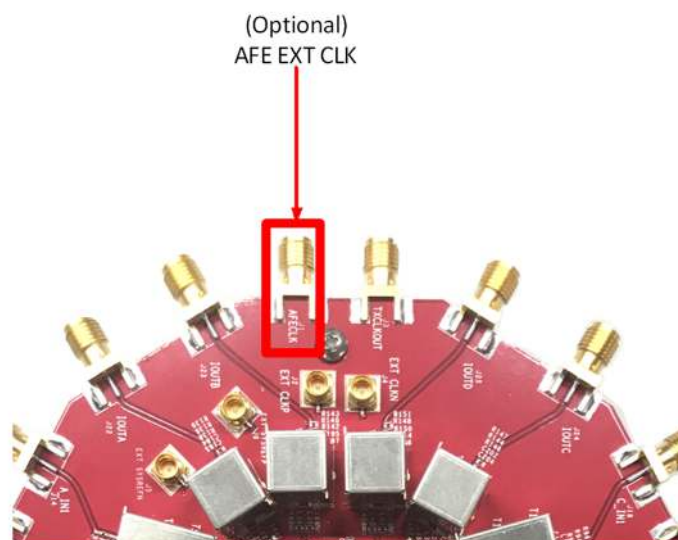

Figure 7. AFE External Clock-In (AFECLK) Location
1. Place the external clock signal at the AFE EXT CLK SMA input, as shown in Figure 7. Make sure the frequency of this signal matches the desired DAC clock frequency. Set the signal power to 20 dBm.